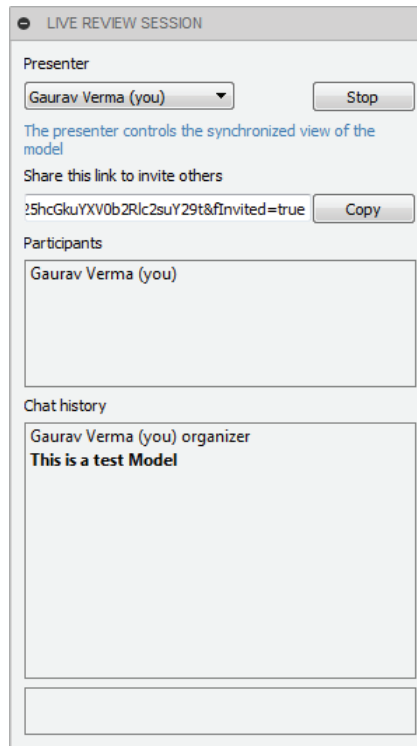
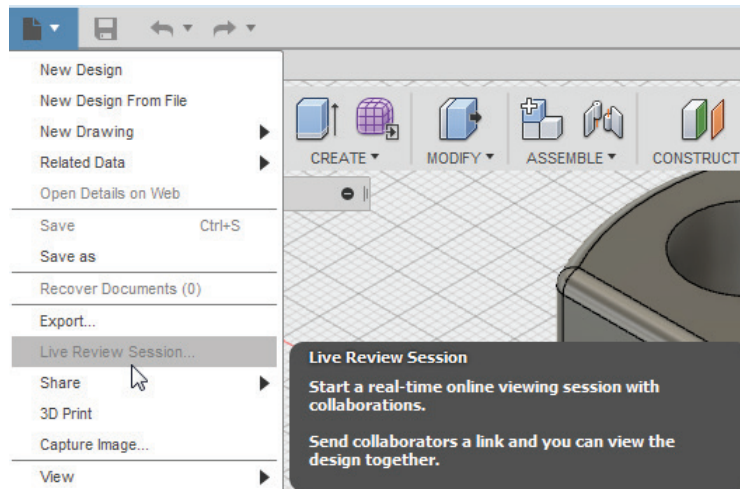

Figure-25. Live Review Session dialog box
Figure-28. Live Review Session
- Click on the **Live Review Session** tool from the **File** menu; refer to Figure-28. The **Fusion 360** dialog box will be displayed asking you to enable preview of the feature if you have not opted to display preview tools earlier while installing. Click on the **Enable** button from the dialog box. The **LIVE REVIEW SESSION** dialog box will be displayed in the left of application window; refer to Figure-25.